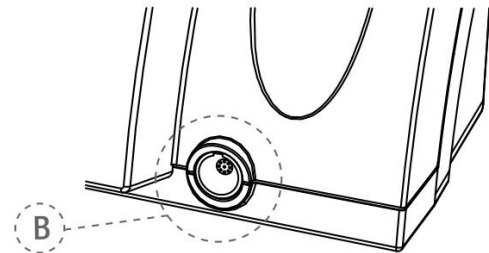

Fig. 3 Metal socket
3. Insert the micromotor connector into the 9-pin metal socket (B - see Fig. 3) at the front of the device.